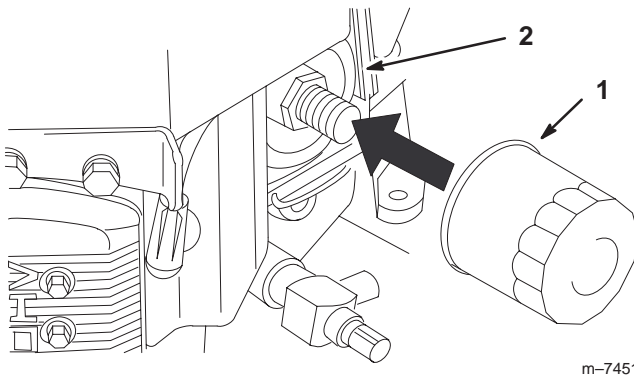

Figure 33
2. Remove the old oil filter (Fig. 33).
3. Apply a thin coat of new oil to the rubber gasket on the replacement filter (Fig. 33).
4. Install the replacement oil filter to the filter adapter, turn the oil filter clockwise until the rubber gasket contacts the filter adapter, then tighten the filter an additional 3/4 turn (Fig. 33).